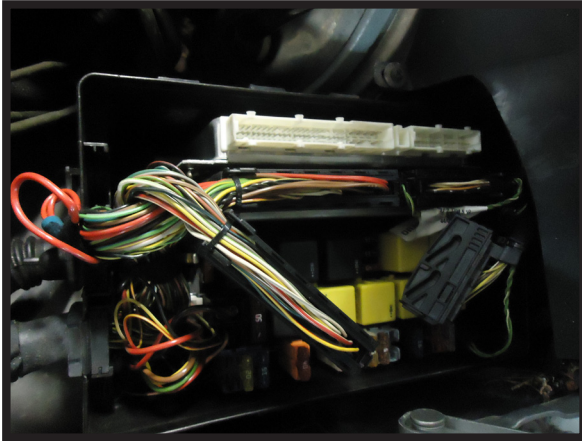

FIGURE 40
2. AFTER VERIFYING COMPUTER, DISCONNECT ALL THREE (3) MULTI-PIN CONNECTORS PERMANENTLY. (FIGURE 40)